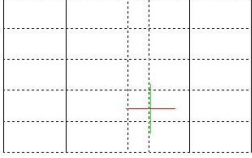

Fig 20
- 3. Specify the place or distance to drag to (left is positive). (Fig20)